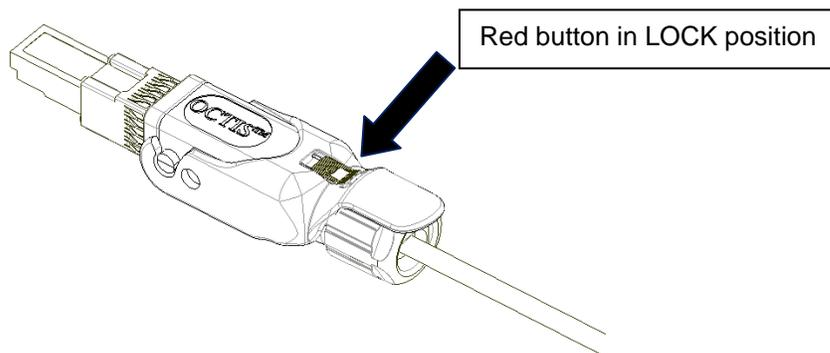

Figure 12A
8. Close the lever and push the red button towards the back so that lever can't be lifted. Lever can be lifted only after pushing the red button towards front. (Fig 12A to 12B)